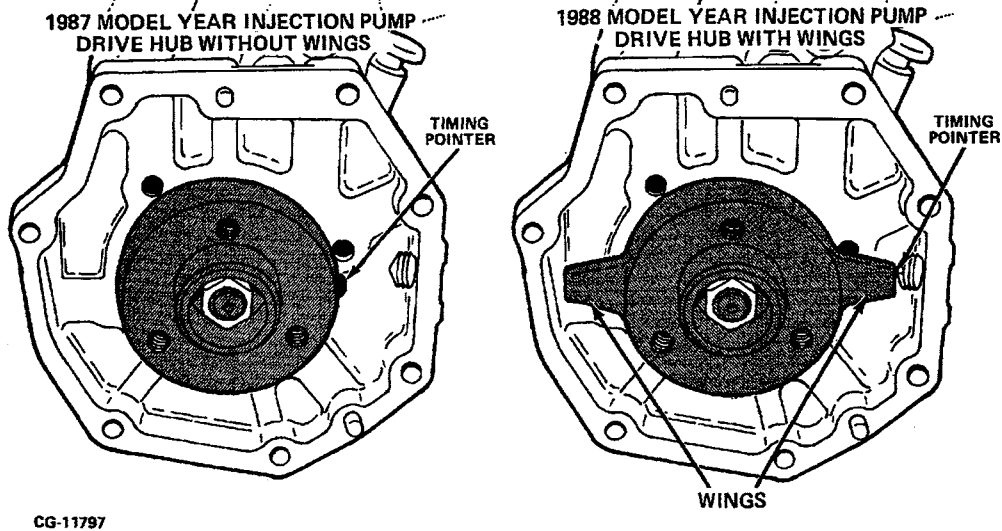

Figure 11.123. Injection Pump Drive Hub Identification
**NOTE:** The injection pump drive hub for 1988 has wings which allow for better timing mark visibility. Refer to Figure 11.123.